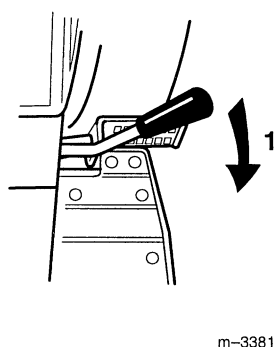

Figure 3
3. Move the PTO (power take off) to disengage (Fig. 3).
5. Move the choke lever to “ON” (Fig. 3).